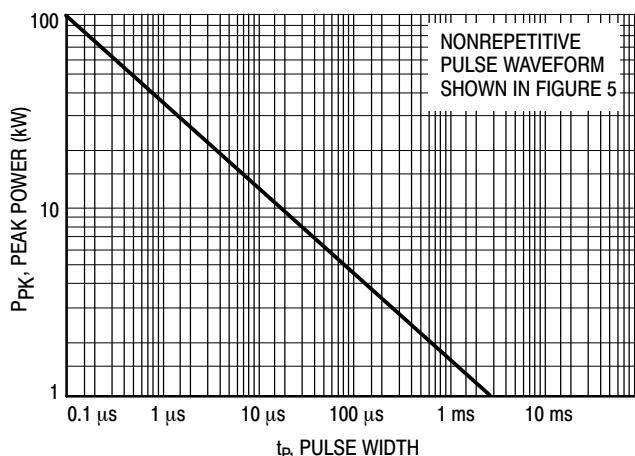
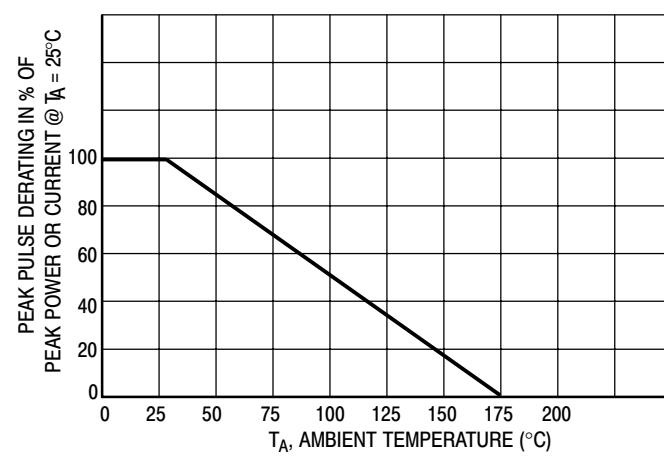
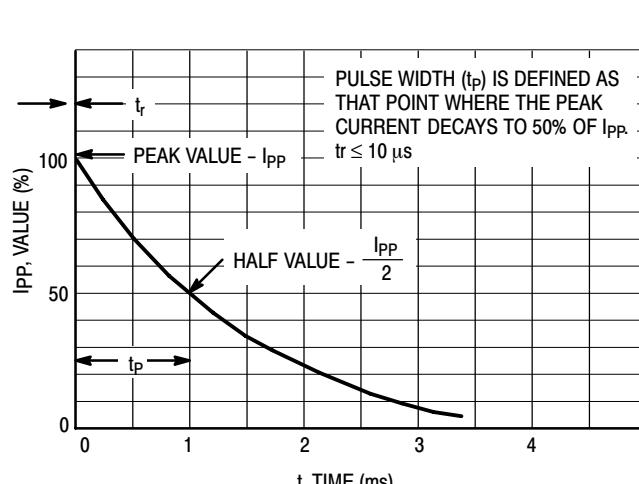
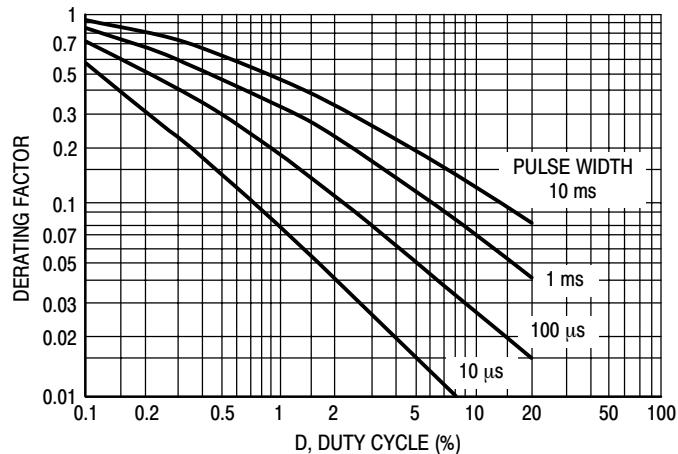

Figure 1. Pulse Rating Curve
Figure 2. Pulse Derating Curve
Figure 5. Pulse Waveform
Figure 7. Typical Derating Factor for Duty Cycle
1. Nonrepetitive current pulse per Figure 5 and derated above $T_A = 25^\circ\text{C}$ per Figure 2.
7. Surge current waveform per Figure 5 and derate per Figures 1 and 2.
The data of Figure 1 applies for non-repetitive conditions and at a lead temperature of 25°C. If the duty cycle increases, the peak power must be reduced as indicated by the curves of Figure 7. Average power must be derated as the lead or
At first glance the derating curves of Figure 7 appear to be in error as the 10 ms pulse has a higher derating factor than
the 10 μ s pulse. However, when the derating factor for a given pulse of Figure 7 is multiplied by the peak power value of Figure 1 for the same pulse, the results follow the expected trend.